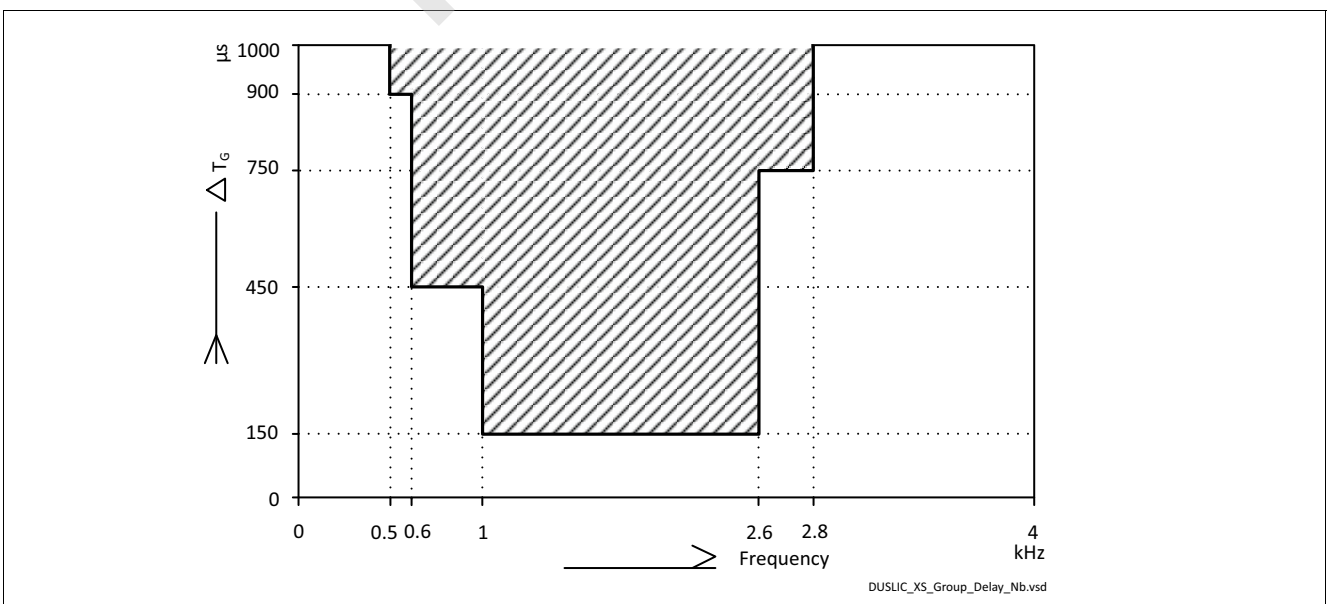

Figure 21 Group Delay Distortion Receive and Transmit, Signal Level is 0 dBm0
**Figure 21** shows the narrowband group distortion.